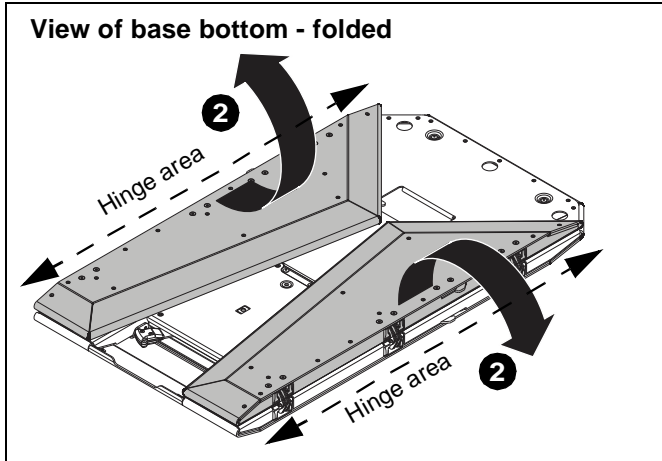

Figure 1
2. Open both sides of the base (A), being careful to keep fingers from hinge areas. (See Figure 1)